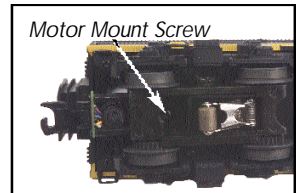

Figure 4 - Motor Mount Screw
2. Once the body is removed, remove the trucks by unscrewing the motor mount screw located on the underside of the drive trucks. See Figure 4.